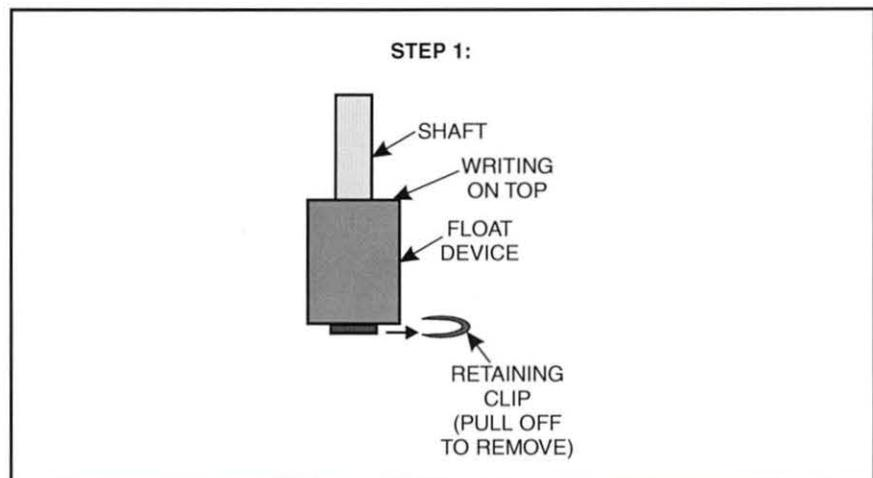

Figure 17. Location of Retaining Clip
A. Locate and remove the retaining clip by pulling it off, as shown in figure 17, with needle nose pliers.